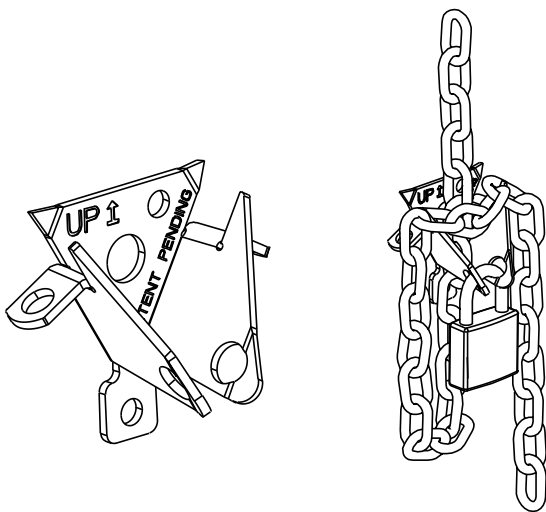

FIG. 3
5. Loop chain around keeper as shown. FIG. 3. (Optional Padlock not provided).